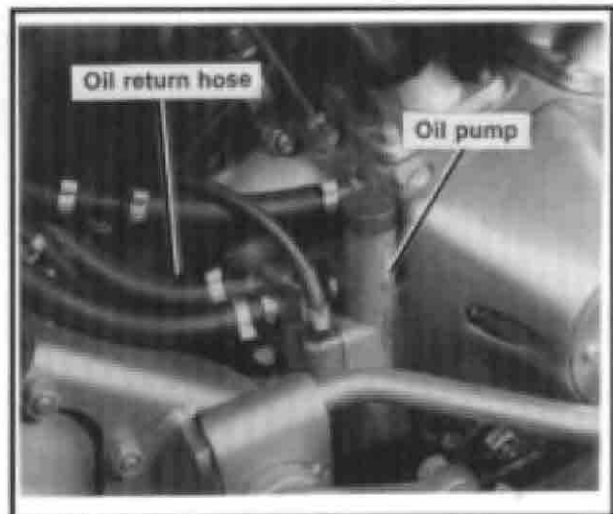

Figure 5. FX Oil Line Routing
- See Figure 5. Remove the oil return hose, at the oil pump. Cut off one inch from the hose end to expose a new section for reconnection.